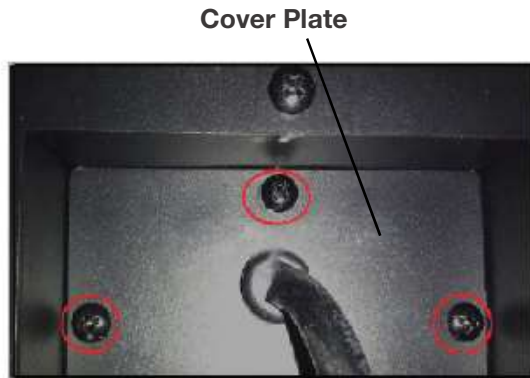

Fig. 1
1. Remove the cover plate from the right side bottom of the appliance by removing the 3 screws (**Fig.1**).